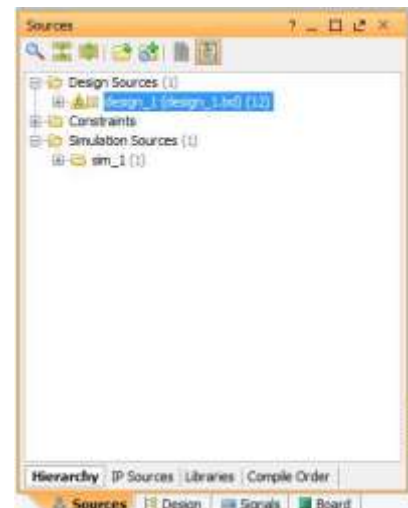
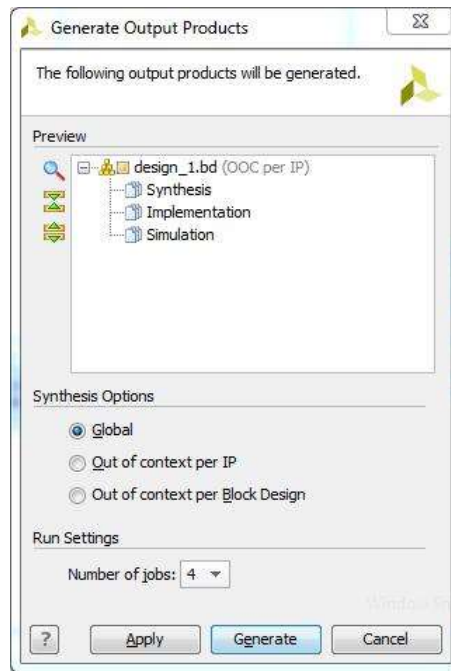

Figure 22: Sources Window
Figure 23: Generate Output Products Dialog Box
1. In the Sources window (see Figure 22), select the block design, right-click it and select **Generate Output Products**. Alternatively click **Generate Block Design** in the Flow Navigator. The Generate Output Products dialog box opens (see Figure 23).